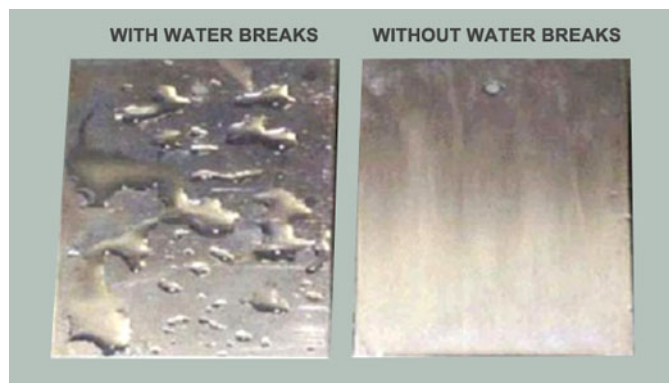

Figure 3-26. Water break example.
4. After abrading and/or deoxidizing the area, rinse the surface thoroughly by flushing with fresh water, paying particular attention to fasteners and other areas where residues may become entrapped. At this stage of the cleaning process, the surface should be water break-free (fig 3-26). A surface showing water breaks (water beading or incomplete wetting) means there is contamination, which will later interfere with conversion coating, sealing, and painting.